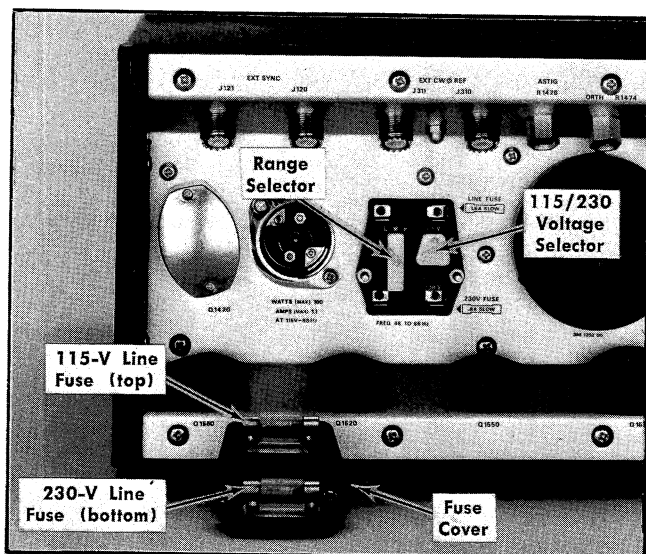

Fig. 2-1. Location of Range and Voltage Selector plugs with fuse cover removed. The plugs as shown are set for 115-V medium range operation.
3. To convert to a different line voltage (115 V or 230 V), pull out the 115/230 Voltage Selector plug (see Fig. 2-1). Rotate the plug 180° and insert it into the opposite set of holes. The 115/230 Voltage Selector plug is located in the upper position for 115-V operation and in the lower position for 230-V operation.
4. To change the line-voltage operating range (LO, M or HI), pull out the Range Selector plug (see Fig. 2-1) and insert it in the desired hole locations. Select a range which has a center voltage (see column 3 in Table 2-1) that closely corresponds to the line voltage that will be applied when completing this procedure.